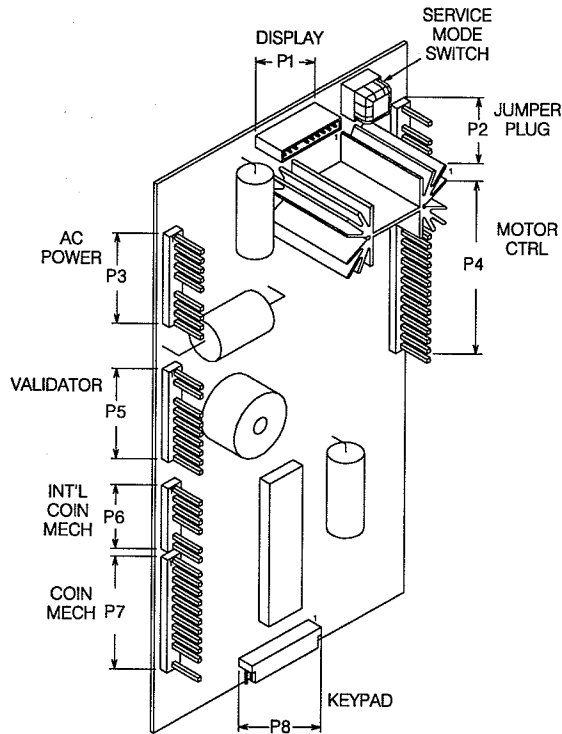

Figure 4. Host Control Board, Connector P4
5. Connect the umbilical cord from the Menu Mart II to the 12 pin connector on the "pigtail harness" from P4 connector on the host machine control board. See Figure 4.